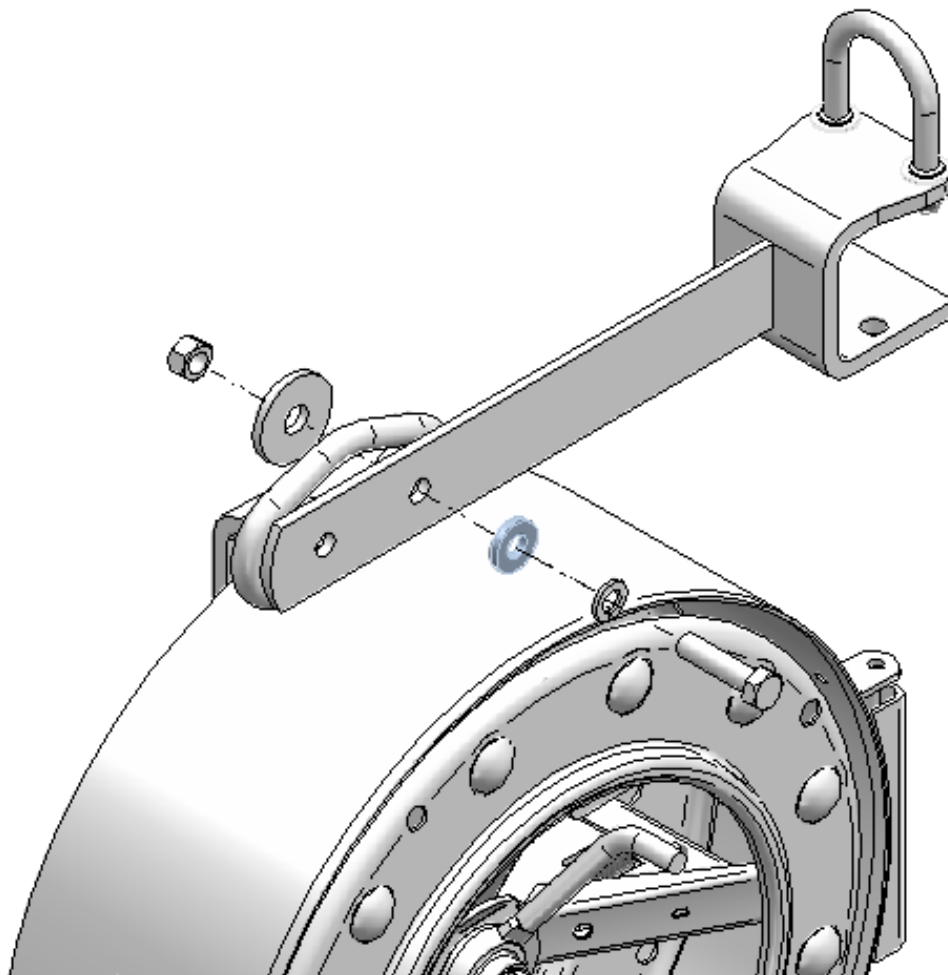

Figure 2
2. Remove fasteners holding the flux tank arm to the wire reel stand as seen in Figure 2.